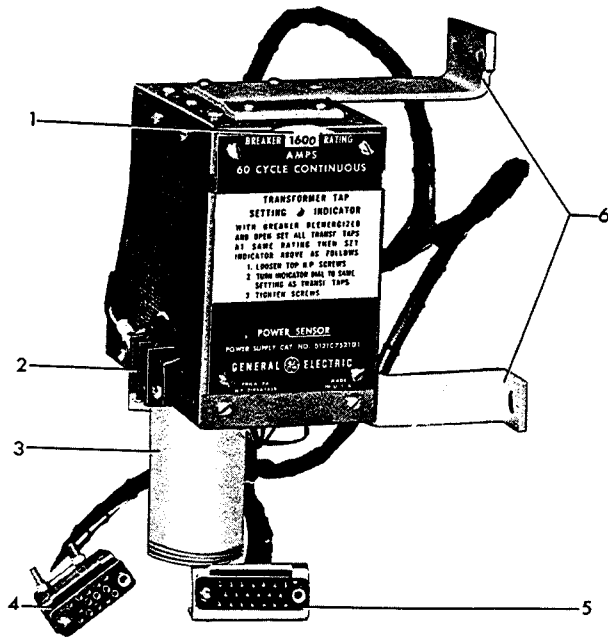

Fig. 34 (8039648) Power Supply
2. The Power Supply which provides both the tripping energy and the comparison basis for overcurrent detection (Fig. 34).
**Power Supply (Fig. 34)**